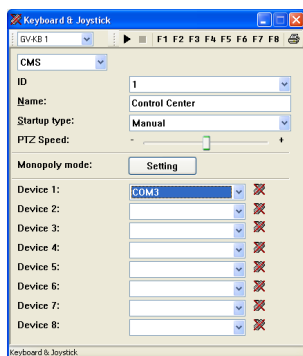

Figure D-1
3. Click the **Start Service** button ► (Figure D-1) and then you can use the GV-Joystick to control the PTZ camera.